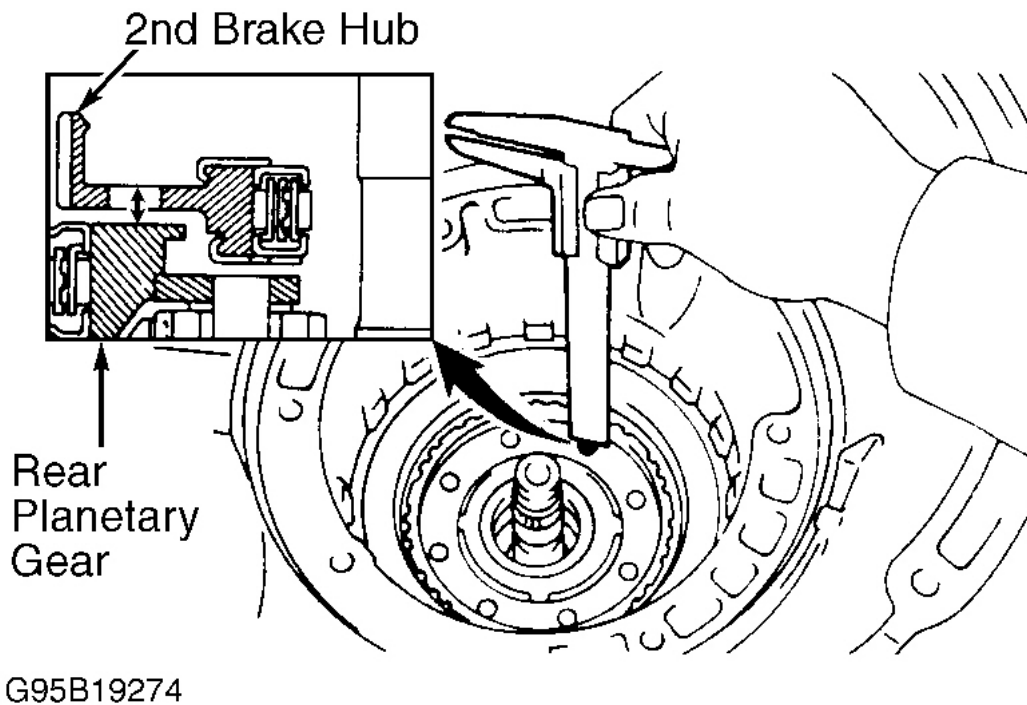

Fig. 45: Checking Clearance Between 2nd Brake Hub & Rear Planetary Gear
16. Install No. 1 one-way clutch and 2nd brake hub by aligning flukes of discs in 2nd brake. Align spline of hub with flukes of discs. Install hub in 2nd brake discs. Check distance between surfaces of 2nd brake hub and rear planetary gear. See **Fig. 45**. Distance should be approximately .20" (5.0 mm).